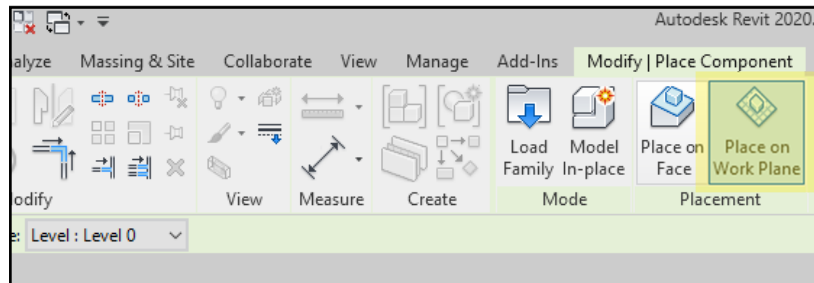

Figure 6-3. Place Family on Work Plane
4. Select the DuraFuse Frames specific connection ID and change the placement from **Place on Face** to **Place on Work Plane** (see Figure 6-3). These icons will pop up when placing the family in